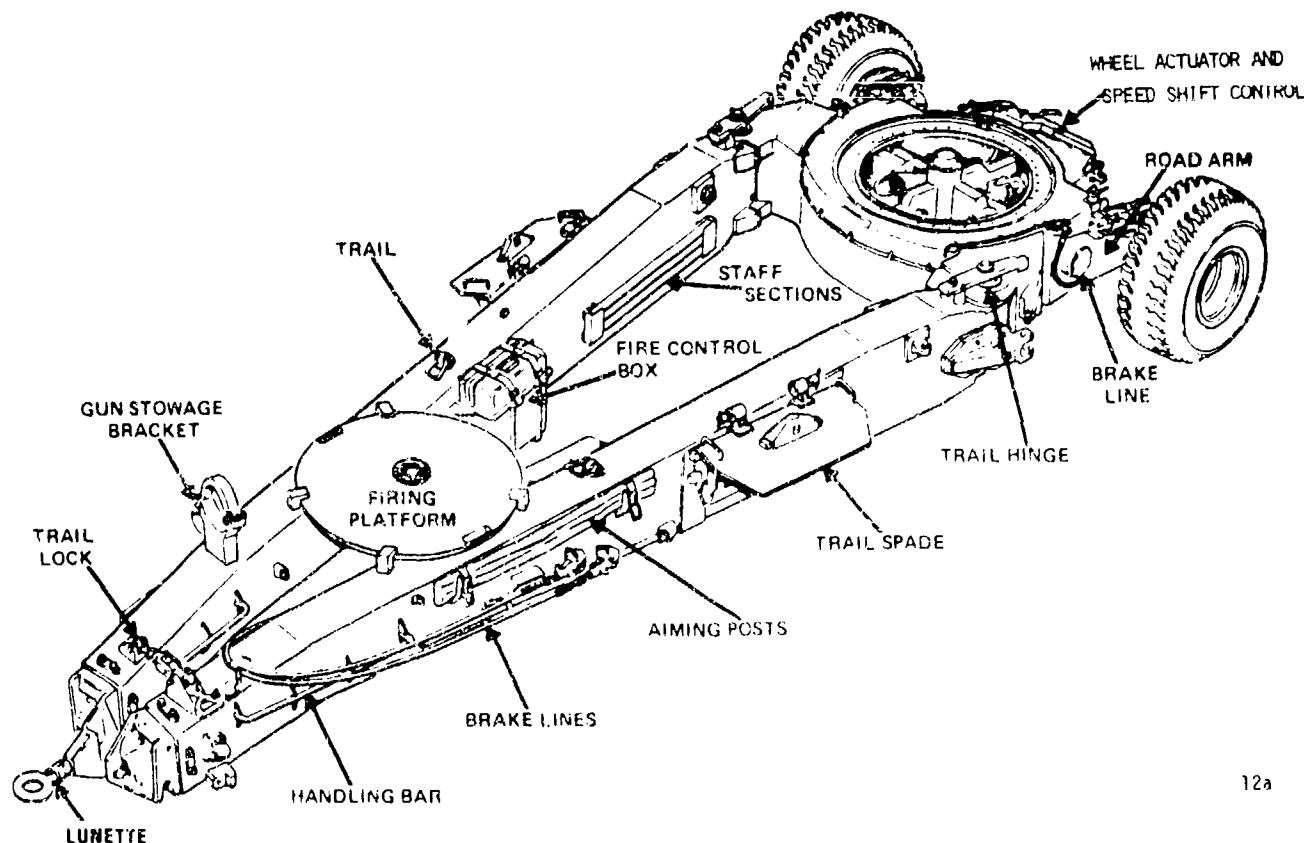

Figure 6-5. Bottom carriage assembly.
*a. Construction.* The bottom carriage (fig 6-5) of the 155-mm howitzer, towed M198, is constructed of welded aluminum.
- (1) Supports the weight of the top carriage and the tipping parts.
- (2) Transmits firing stress to the baseplate and trails.
- (3) Provides a mount for the baseplate, travel lock, and actuator assembly.